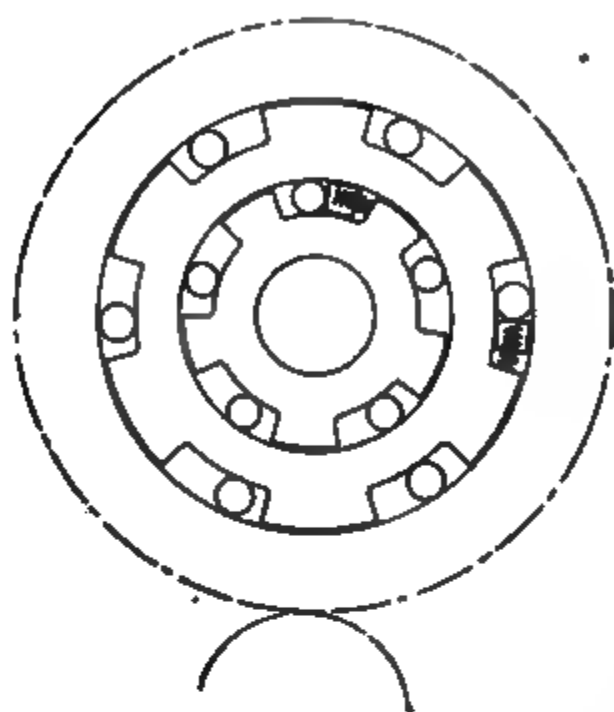

Fig. 168 North East Double Roller Over-Running Clutch (Horseless Age)
*Roller Type.* The roller type is the most commonly used and, as the various forms in which it is made differ but little, a description of one will suffice to make clear the principle employed. It consists of an inner driving member and an outer driven member, connected by a number of rollers when the driving member is rotated in one direction and disconnected when it is rotated in the opposite direction, i.e., when the driven member tends to run faster than the driver. Fig. 168 shows the double-roller over-running clutch employed on the North East dynamotor. A double clutch is employed in this case to permit the dynamotor to be driven at
the driven member tends to run faster than the driver. Fig. 168 shows the double-roller over-running clutch employed on the North East dynamotor. A double clutch is employed in this case to permit the dynamotor to be driven at